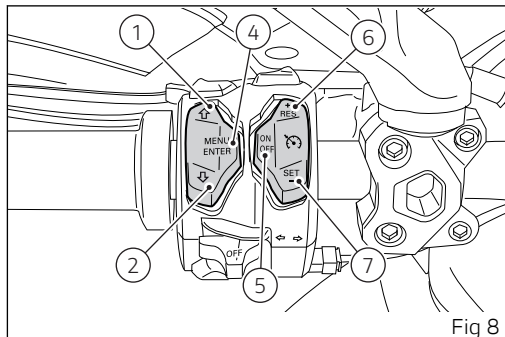

Fig 8
6) CRUISE CONTROL BUTTON - RES (Resume) / + (more) (Fig 8)
7) CRUISE CONTROL BUTTON - SET (Setup) / - (less) (Fig 8)